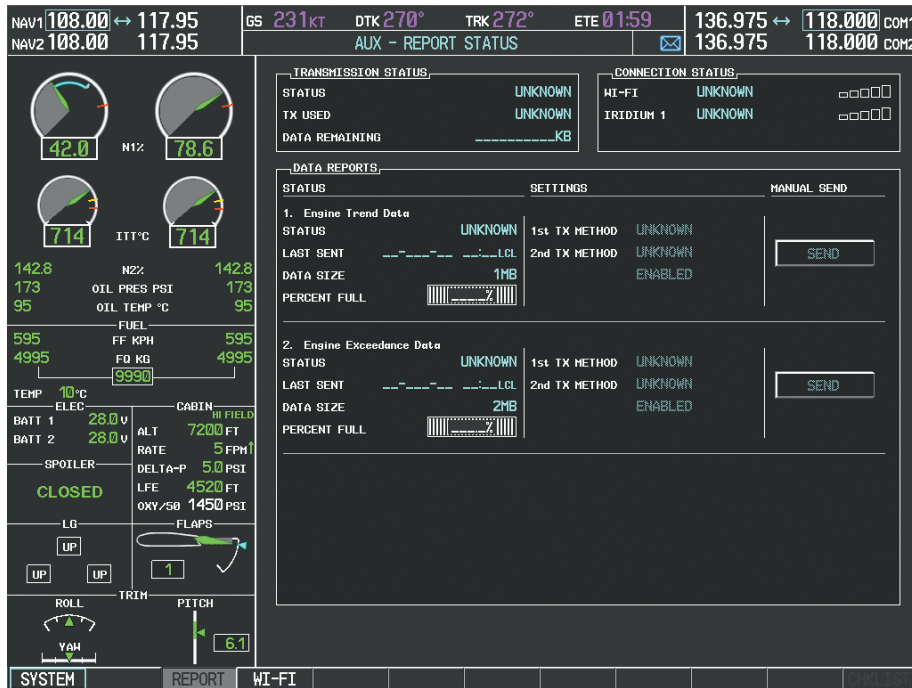

Figure 8-73 Report Status Page Selected Prior to System Registration
- 5) If necessary, select the **REPORTS** Softkey. The AUX-REPORT STATUS Page is now displayed as shown in Figure 8-73.